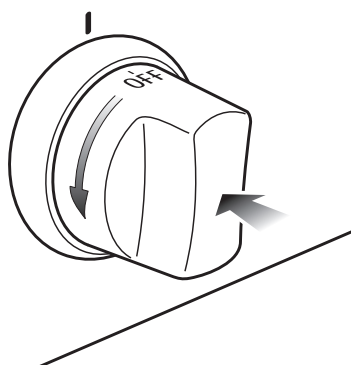

Fig. 2.4
- 1 – Push and turn the knob in an anti-clockwise (fig. 2.4) direction up to the  position (maximum rate of inner crown); push in and hold the knob until the flame has been lit.